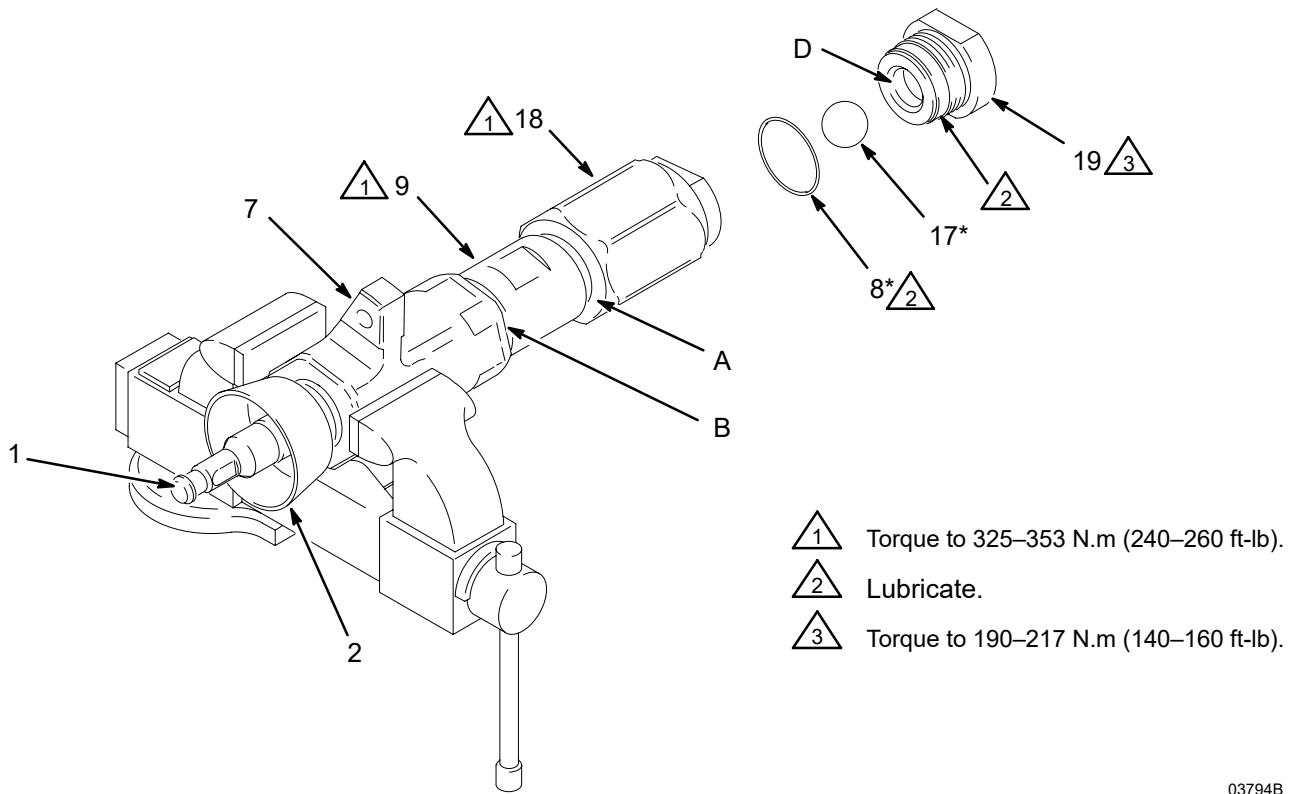

Fig. 7
1. Place the pump lengthwise in a large vise, with the jaws on either the outlet housing (7) as shown in Fig. 7 or on the cylinder (9) flats. Using wrench (110) (order separately), loosen, but do not remove, the packing nut (2).
2. Apply a pipe wrench to the flats of the intake valve (19). Unscrew the intake valve (19) from the intake housing (18). Be careful to catch the intake ball (17) as you remove the intake valve, so that it does not fall and suffer damage. Remove the seal (8) from the intake valve. Inspect the ball and the seat (D) of the intake valve for wear or damage.
3. Apply a pipe wrench to the hex of the valve housing (18). The pump assembly may separate at joint A or joint B.
5. Install the packing nut (2) loosely into the outlet housing (7).
6. Lubricate the piston packings. Slide the displacement rod (1) and piston assembly down into the cylinder (9). The cylinder is symmetrical, so either end may face up. Use a rubber mallet to drive the rod into the cylinder, until the piston seat housing (16) is near the bottom of the cylinder.
7. Install the seal (8*) on the top of the cylinder (9). Lubricate the seal and the top threads of the cylinder.
8. Place the outlet housing (7) in a vise, as shown in Fig. 7. Slide the displacement rod (1) up into the outlet housing, then screw the cylinder (9) into the outlet housing handtight. The threads will engage easily until the seal (8*) contacts the sealing surface of the outlet housing. The top of the rod will protrude from the packing nut (2).
10. Install the seal (8*) on the intake valve (19). Lubricate the seal and the threads of the intake valve. Place the intake ball (17*) in the intake housing (18), then screw the intake valve into the intake housing handtight. The threads will engage easily until the seal contacts the sealing surface of the intake housing.
11. Using a pipe wrench, torque the intake housing (18) to 325–353 N.m (240–260 ft-lb). This will torque both cylinder joints (A and B). See Fig. 7.
12. Using a pipe wrench, torque the intake valve (19) to 190–217 N.m (140–150 ft-lb). See Fig. 7.
13. Torque the packing nut (2) to 136–149 N.m (100–110 ft-lb).